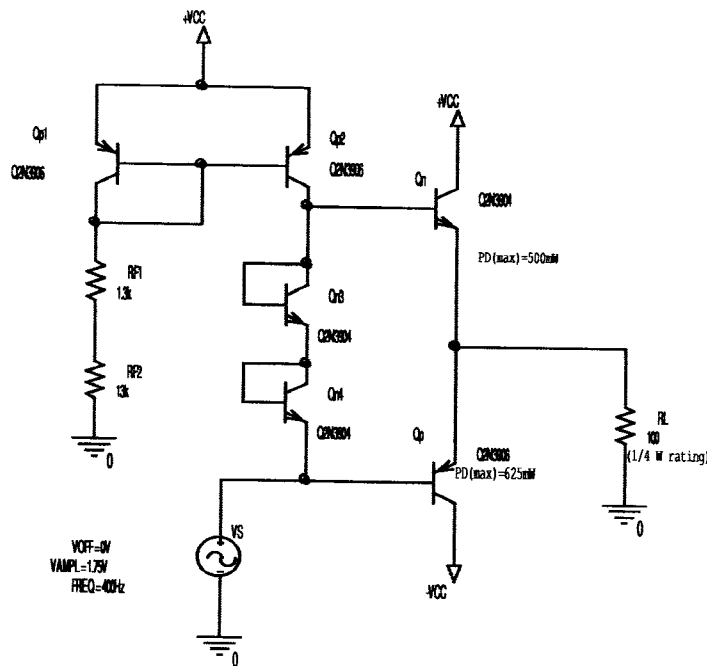

Figure 3a, Class AB Amplifier utilizing diode biasing
- Build the Class AB amplifiers shown in Figure 3a and 3b. Repeat the experiment of part 1. Discuss your observations. What trade-offs are made to achieve lower levels of cross-over distortion?